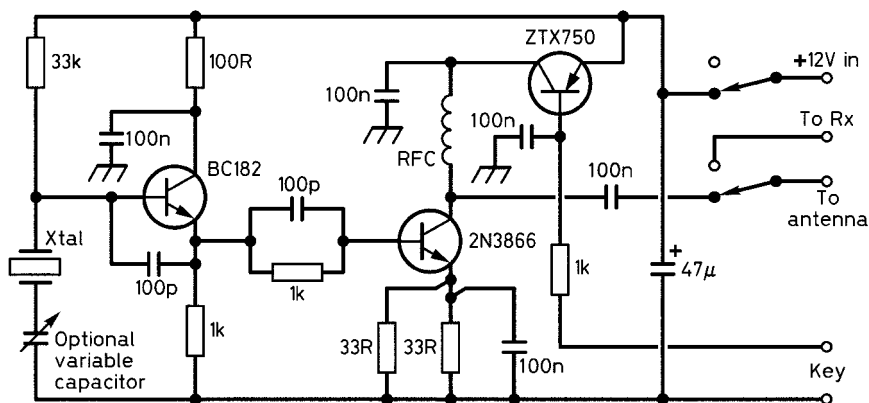

Figure 1 Transmitter circuit diagram
The three-transistor circuit is shown in **Figure 1**. It comprises a crystal oscillator using a BC182 transistor which drives a 2N3866 power amplifier (PA) keyed by a ZTX750 PNP transistor. The oscillator and PA are coupled by a capacitor and resistor; this provides a very small amount of positive bias to the PA.
The oscillator can be used as a basic crystal oscillator but, by including a variable series capacitor as shown in Figure 1, the crystal frequency can be 'pulled' slightly, making the oscillator a *variable crystal oscillator* (VXO).